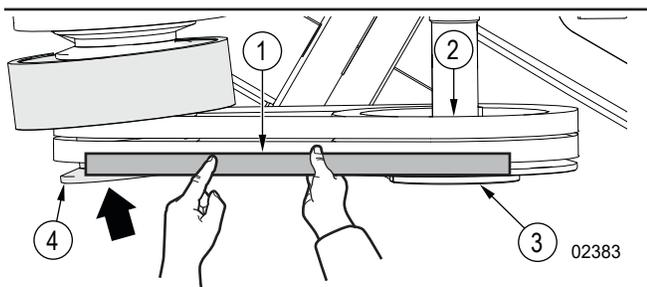

Figure 43—Align the engine clutch
- If the edge of the engine clutch flywheel is not parallel (is on an angle) to the straight-edge tool, align the engine clutch. See *Figure 43 on page 60*. For instructions, see *Align the Engine Clutch on page 60*.